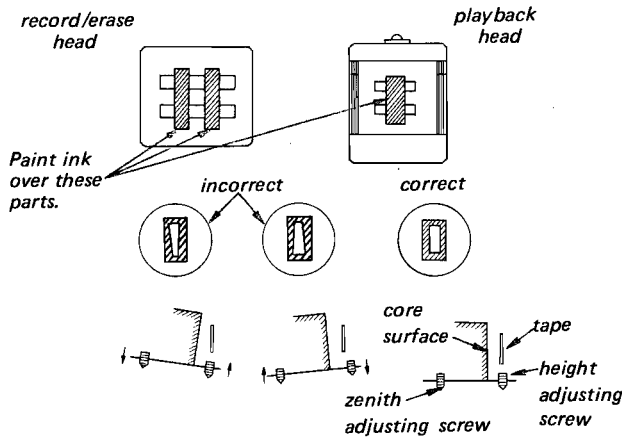

Fig. 3-25. Head zenith and height adjustment
- 3. Paint the head core with black ink as shown in Fig. 3-25.
- 4. After the ink dried, run the tape in the FWD direction for 20 to 30 seconds. Watch the ink on the core fading away. When the same wide amount of the faded away part cannot be obtained at every point, turn the zenith and height adjusting screws in the direction shown by the arrows. See Fig. 3-25. Repeat this step several times until the satisfied result is obtained. After the adjustment clean the core with a soft cloth dampened with denatured alcohol.
- 3. Paint the record/erase head cores with ink as shown in Fig. 3-25.
- 4. After the ink dried, run the tape in the FWD direction for 20 to 30 seconds. Watch the ink on the core fading away. When the ink does not fade away in the same wide amount at every point, turn the zenith and height adjusting screws in the direction shown by the arrows. See Fig. 3-25. Repeat this step several times until the satisfied result is obtained. After adjustment clean the cores with a soft cloth dampened with denatured alcohol.